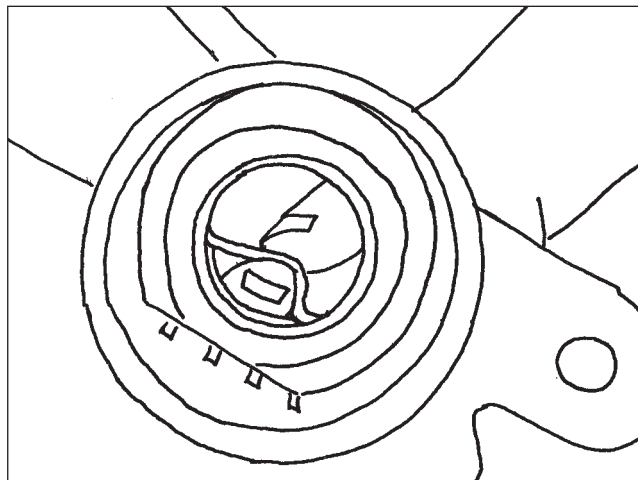

Figure 26
10. Install a new sector shaft seal in the housing. Make sure the blue side of the seal faces toward the outside of the housing (Figure 26).